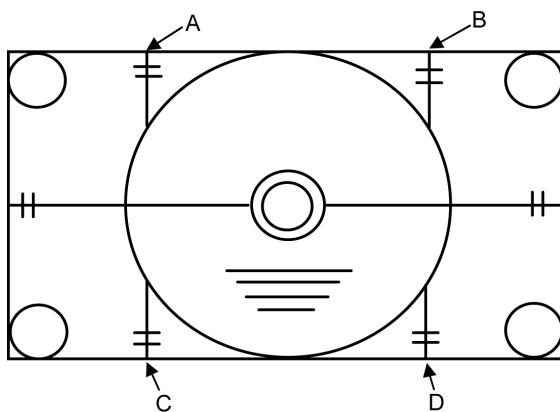

Fig. 3
- C, D (Fig. 3) is  $2.0 \pm 0.1$
- A, B (Fig. 3) is  $2.0 \pm 0.1$